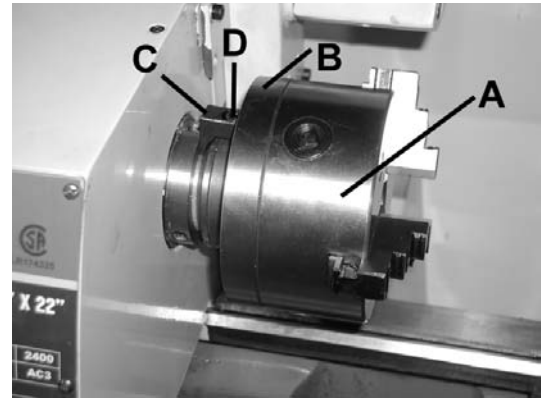

FIGURE 8
Before mounting a chuck (A) Fig.8, face plate or other attachments, it is very important that the mounting surfaces on both the spindle nose and the attachment are extremely clean.